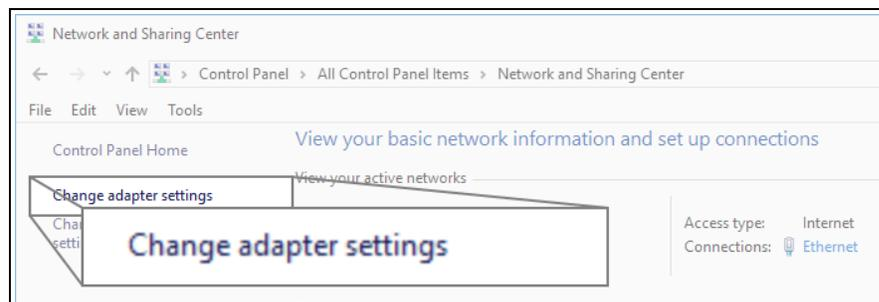

Figure 63: Change Adapter Settings Link
4. Click the **Change Adapter Settings** link. Figure 63